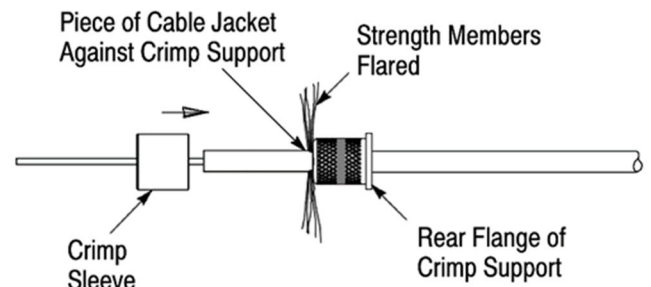

Figure 4
1. Apply a continuous bead of the Loctite 480 instant adhesive around the cable jacket between 4 and 5 mm from the stripped end of the jacket. See Figure 4, Detail A.
2. Rotate and slide the crimp support (large diameter end first) over the fibers and strength members and onto the jacket until it bottoms. See Figure 4, Detail B.
3. Apply a thin band of the instant adhesive around the knurled portion of the crimp support. Make sure that the band is continuous around the entire circumference. See Figure 4, Detail C.
4. Slide the piece of cable jacket (stripped from the cable in Paragraph 5.1) over the buffered fiber and into the center of the strength members until it bottoms against the crimp support and the strength members are flared away from the fiber. See Figure 4, Details D and E.
5. Slide the crimp sleeve over the fiber and the piece of cable jacket so that the strength members fold back evenly around and over the crimp support until it bottoms on the rear flange of the crimp support. This step should be performed quickly before the adhesive begins to harden. See Figure 4, Detail E.